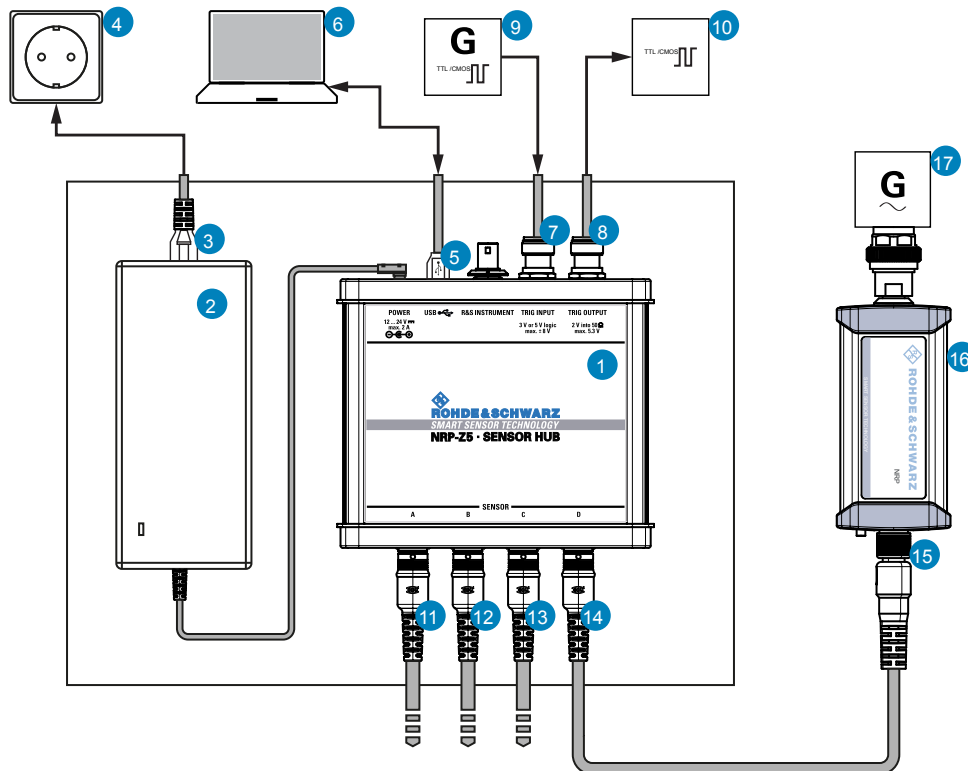

Figure 4-2: Configuration with an R&S NRP-Z5 sensor hub
1. Connect the cables as shown in Figure 4-2: